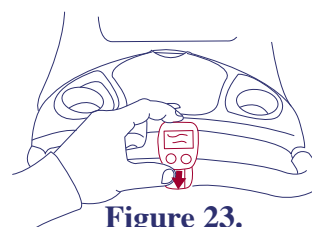

Figure 23.
- The pedometer is located in a separate box inside the main box. Slide the pedometer onto the provided mounting bracket as shown in figure 23. Instructions on how to use the pedometer are included in the separate box.